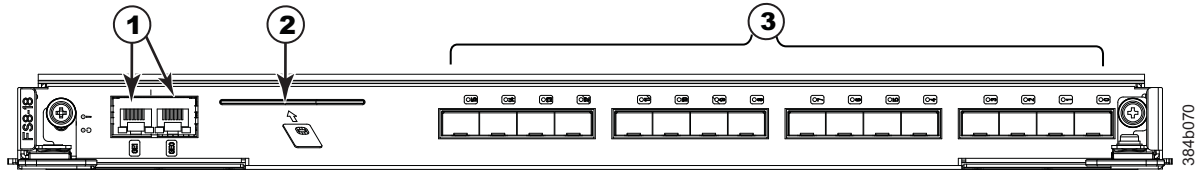

Figure 58. FS8-18 encryption blade
- Figure 58 on page 143 shows an FS8-18 encryption blade